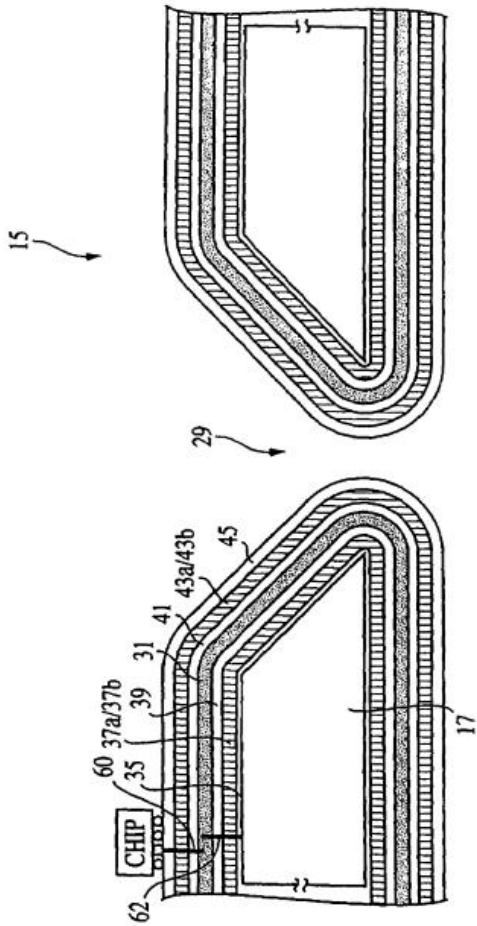

FIG. 4
Fig. 4. Cross-sectional view of the defect-free, near-surface region of a silicon wafer. The lower portion of the figure shows silicon dioxide precipitates used for impurity gettering; reprinted with permission from (15).